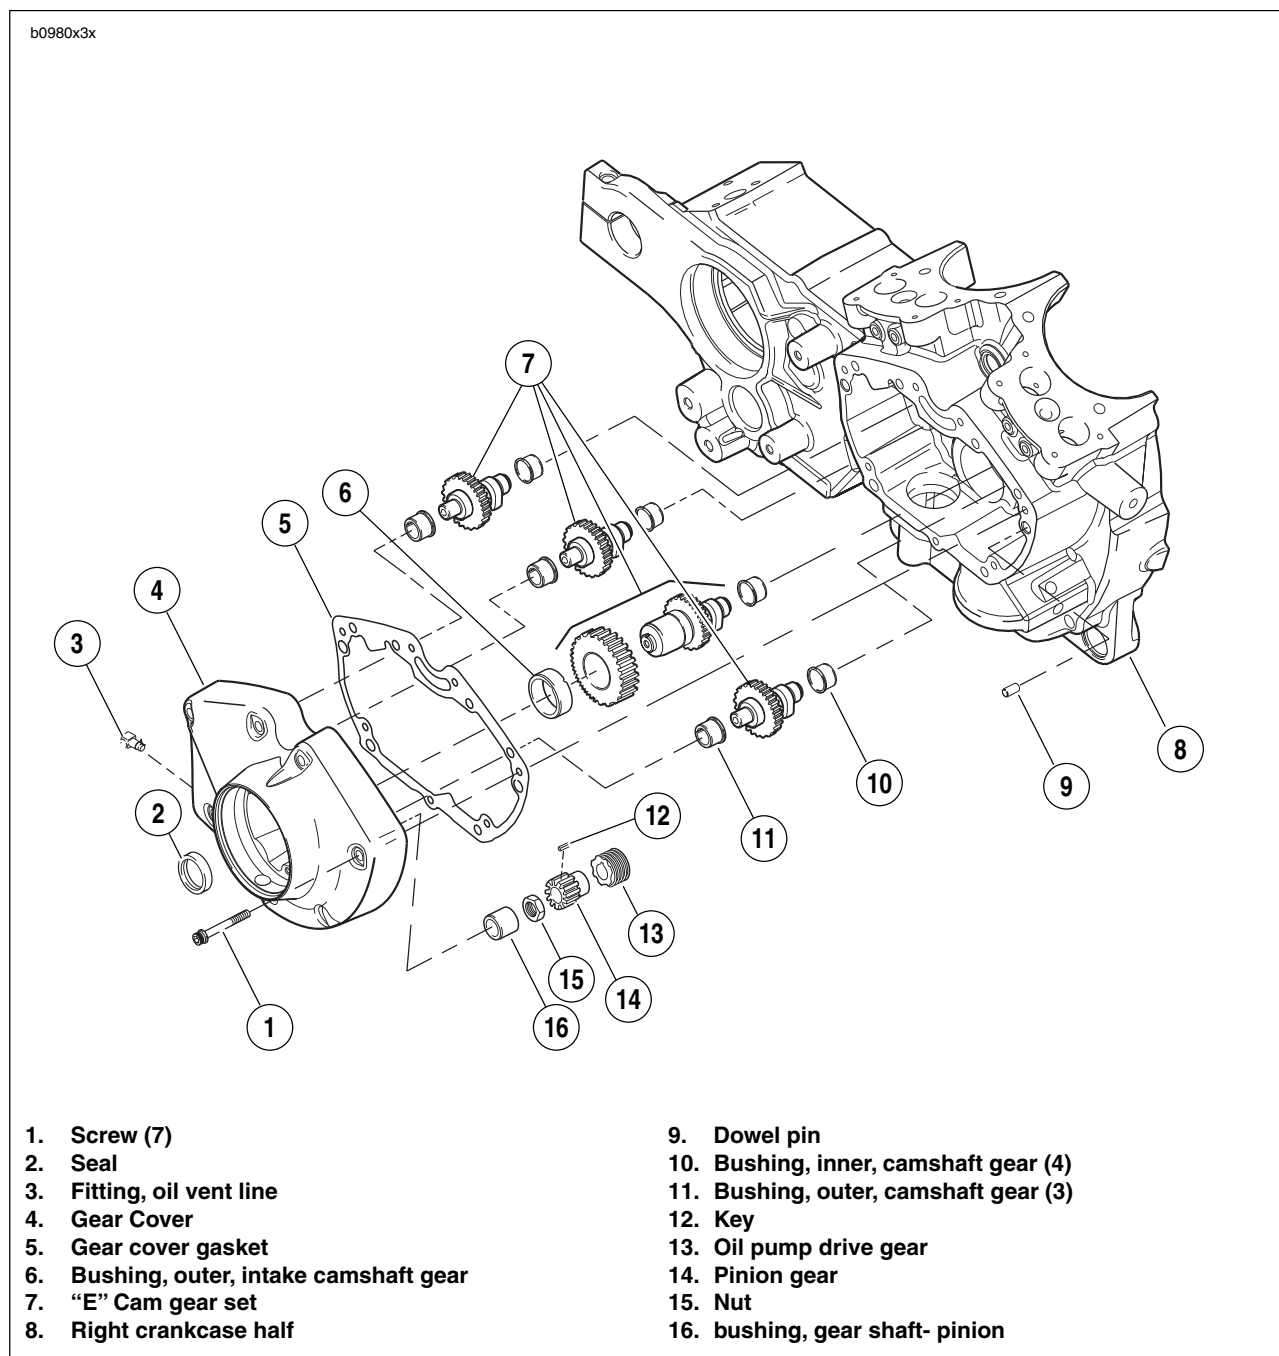

Figure 3-124. Gearcase Cover & Cam Assembly
1. See Figure 3-124. Thoroughly clean area around gearcase cover and tappets. Blow loose dirt from crankcase with compressed air.
2. See Figure 3-124. Install pinion nut.
3. See Figure 3-124. Liberally apply engine oil to bushings, shafts, and gears. Install all cam gears into bushings of right crankcase half, properly aligning timing marks of cam gears and pinion gear.
4. See Figure 3-124. Install a **new** seal and **new** dry gear cover gasket on crankcase.